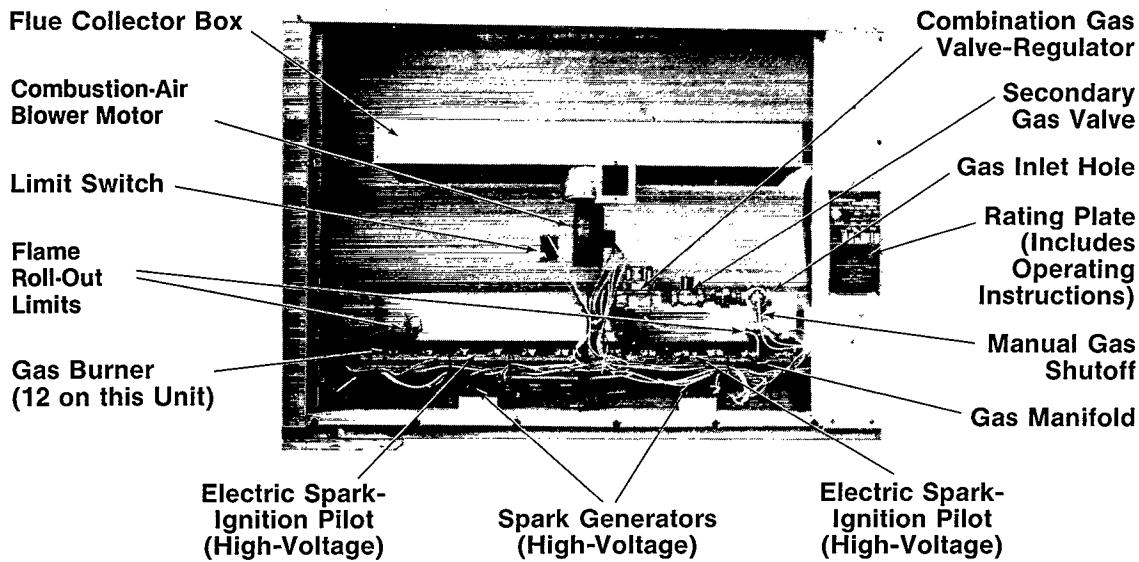

Figure 3 — Heating Section Access Panels Removed
The gas heating section of your combination heating/cooling unit is equipped with automatic intermittent ignition devices that do not have continuously burning pilot flames. The pilots are automatically lit by electric sparking devices each time your conditioned space thermostat "calls for heat." See Figure 3.
- Step 3— Turn manual gas shutoff to OFF position by placing shut-off lever at right angle to gas line. See Figure 3.
- Step 3— Turn manual gas shutoff to OFF position and wait 5 minutes. See Figure 3.